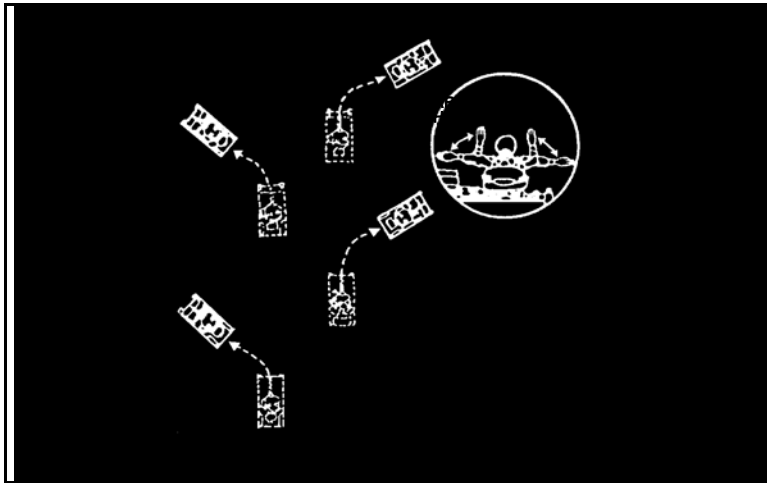

Figure 5. Herringbone.
a. When traveling in a column formation, select the herringbone formation to disperse the platoon (Figure 5). Direct this formation during an air attack or when the platoon must stop during movement. Direct the BFVs to be repositioned, as necessary, to take advantage of the best cover, concealment, and fields of fire as time permits. Direct fire teams to establish security during limited visibility or when the halt is more than temporary. Normally, this formation is executed without a radio command.